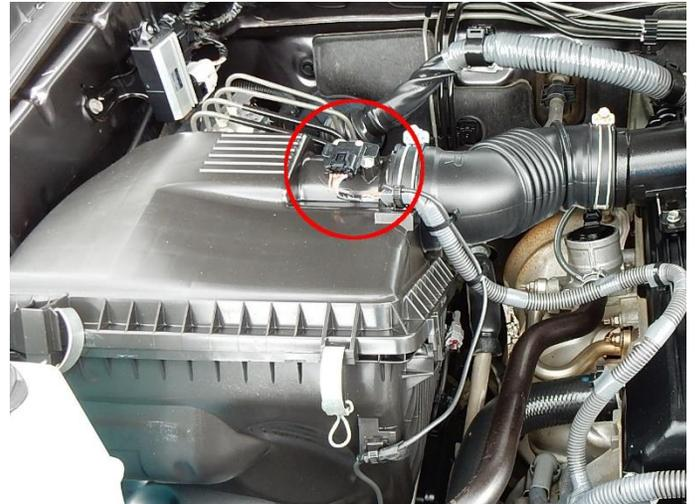

Figure 1 - MAF/IAT Sensor
1) Locate and disconnect the MAF/IAT sensor on the airbox shown in Figure 1 by firmly squeezing the locking tab while pulling connector off. DO NOT PULL ON THE WIRES.